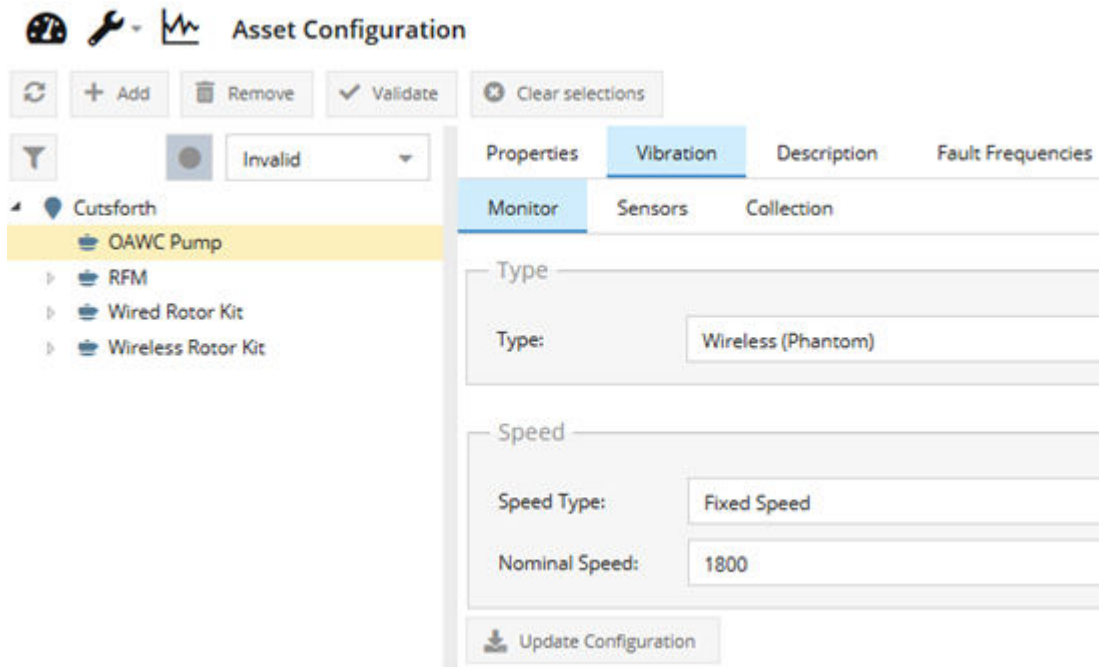

Figure 11. Select the Monitor Type as Wireless Phantom and set the nameplate speed
- a. Ensure that the equipment asset is defined and the monitor type is configured as “Wireless (Phantom)” for the Phantom sensor you are adding (see Figure 11).